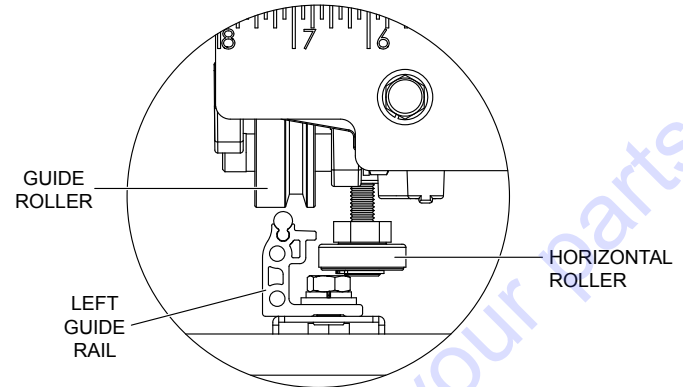

**Figure 25. Roller Clearance**
1. Use the universal wrench to loosen (but not remove) the fasteners from either end of both guide rails. Move each rail away from the other, so that the horizontal rollers are clear of the right guide rail. See Figure 25.